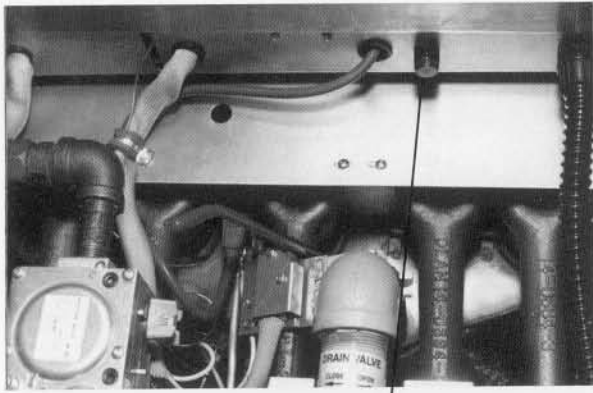

Figure 13
1. Remove fuse holder cap under component box and remove defective fuse (Fig. 13).
- Remove top cap (Fig. 13).